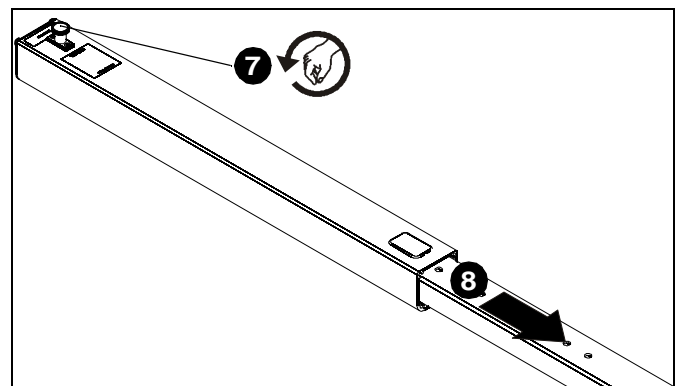

Figure 3
7. Turn knob on back of column to release inner column from outer column. (See Figure 3)
8. Pull inner column down through outer column until lower end of inner column is exposed. (See Figure 3)